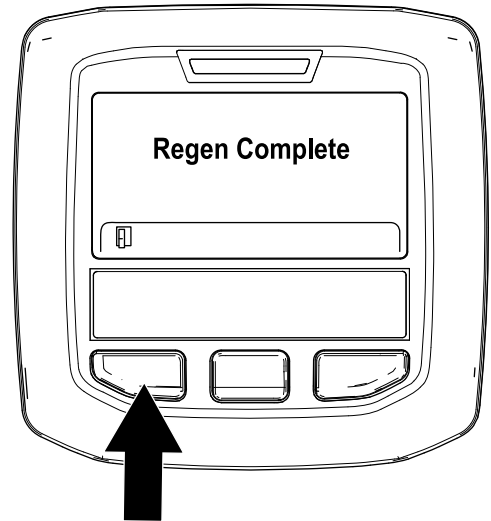

Figure 38
9. The parked regeneration is complete when the "Regen Complete" message displays in the InfoCenter. Press the left button to exit to the home screen (Figure 38).